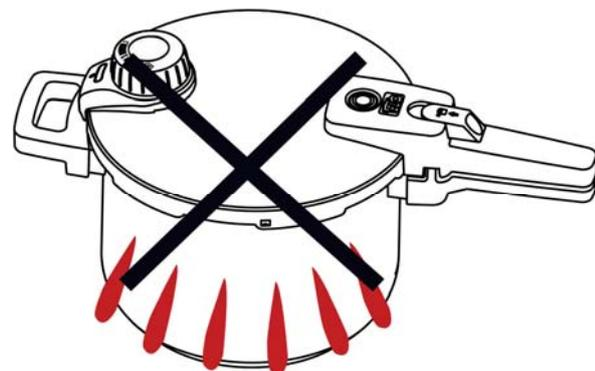

Fig.2
2、 Under the pressure limit, the boiling point of the liquid is below 120°C (250F). Please operate carefully because a lot of steam and soup juice will come out when boiling and especially when the pressure reducing fast.(Fig.2)